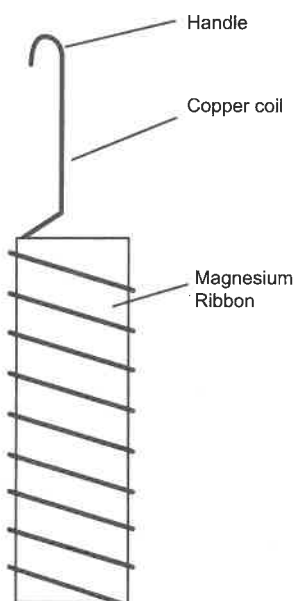

Figure 2.1
2. Fold the magnesium ribbon and place it in the coil as shown in Figure 2.1.